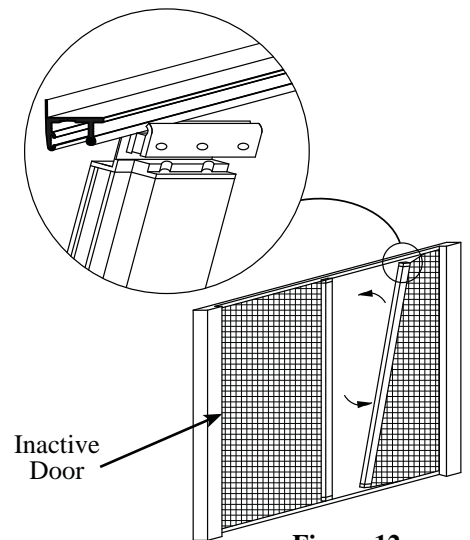

Figure 12
**Carefully...** and while making sure the screen is properly guided within the top and bottom tracks, pull on the center of the drawbar until approximately two (2) feet of screen is exposed. Line up the top drawbar guide with the top track, and the bottom drawbar guide with the bottom track (*this will require the drawbar to be at a slight angle*) and "snap" into place (Figure 12). Allow the screen to retract back into the housing. Test for smooth operation.